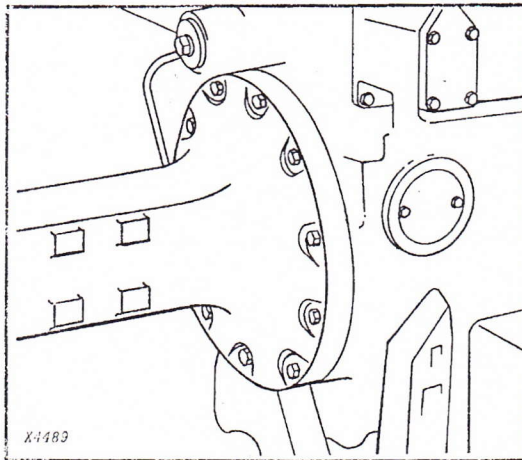

Fig. 4 — Tractor Rear Axle Housing Fastened to Differential Housing with Cap Screws
**They simplify manufacture.** Because of their complexity, many components and assemblies cannot be made in one piece; they must be made of two or more parts (Fig. 4), held together by fasteners. Thus fasteners greatly simplify manufacture.